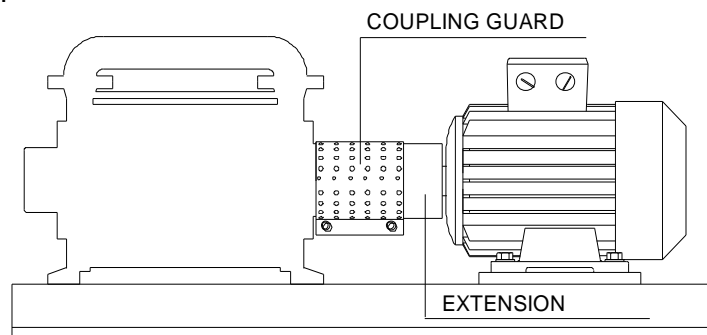

Fig 9 - CHECKING ALIGNMENT ON BASE MOUNTED PUMP DESIGN
- 7 - Remove the coupling guard and its extension (if there is one) attached to the pump, by removing the two locking screws (see fig. 9 and 10).